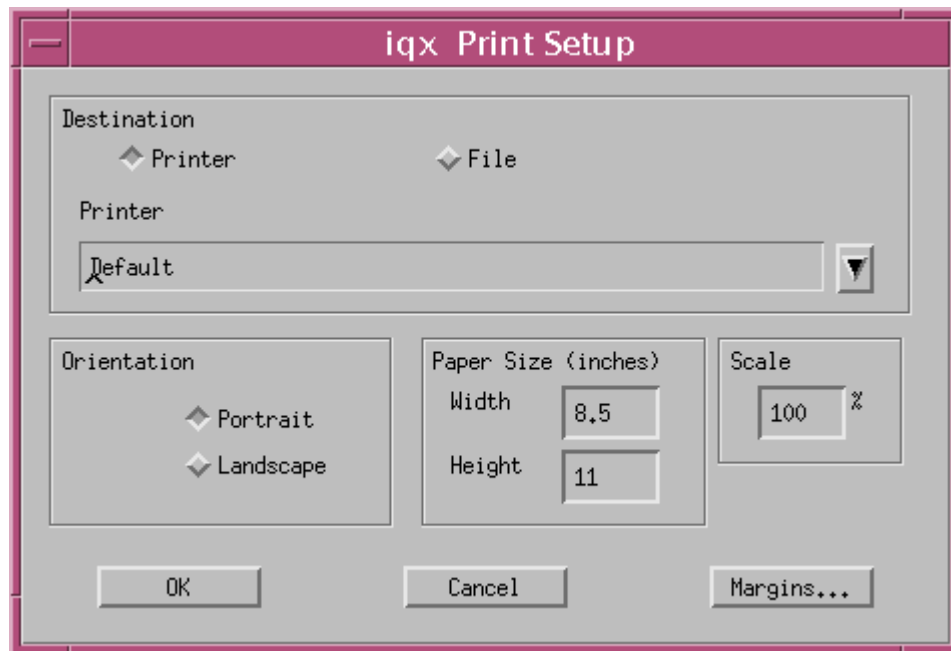

Figure 26.22.1-11. iqx Print Setup GUI
- The **iqx Print Setup** GUI (Figure 26.22.1- 11) is dismissed.
- The **iqx Execute to Printer** GUI (Figure 26.22.1-9) is displayed
- The **iqx Save IQView** GUI (Figure 26.22.1- 12) is displayed.